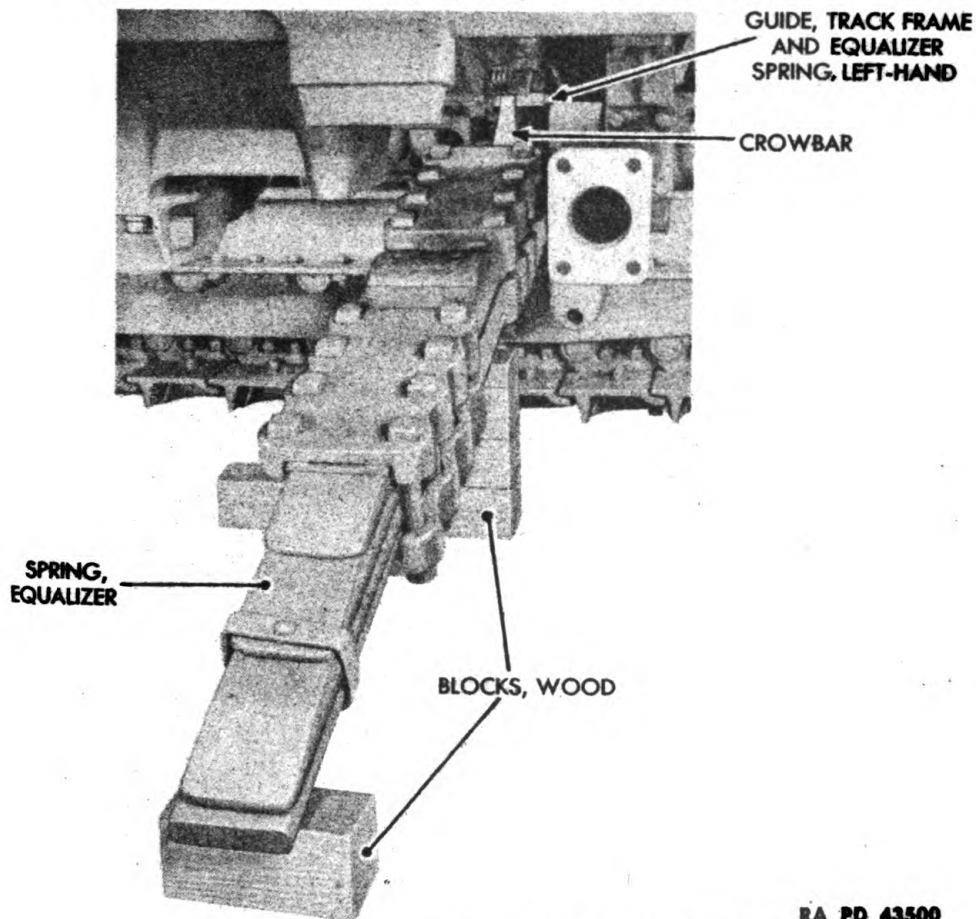

Figure 134 – Equalizer Spring Removal
(4) REMOVE EQUALIZER SPRING (fig. 134).